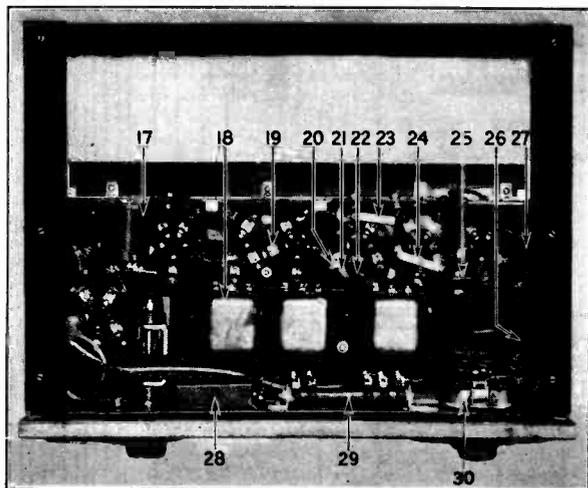

Fig. 3—Bottom of Radiola
- Open center tap resistor 27, Fig. 3.